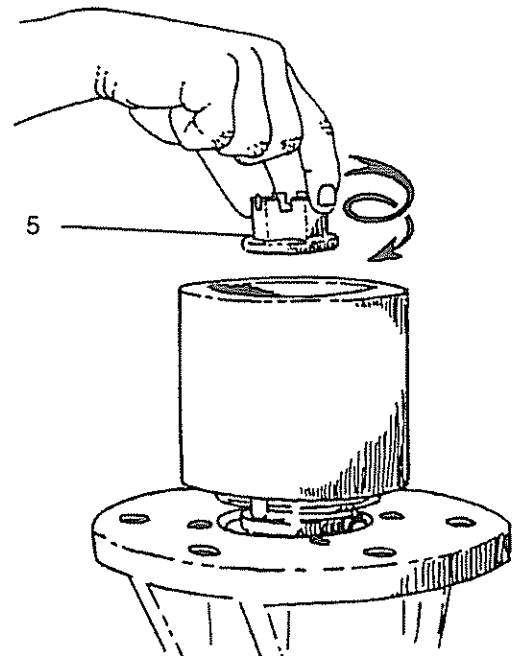

FIG. 4
1. Tighten nuts (#1) Figure 4 until they contact spring plate and then turn approximately four turns.